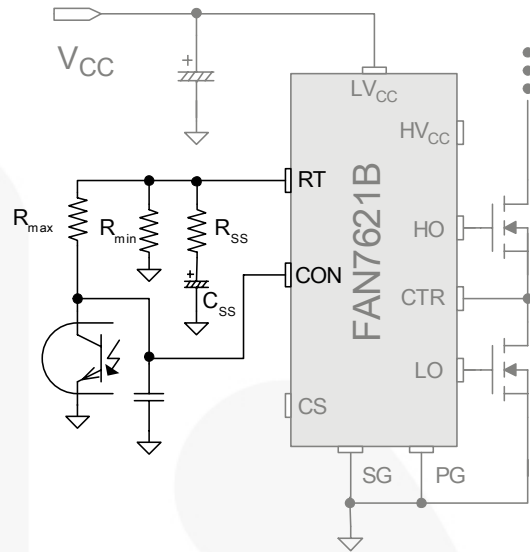

**Figure 21. Internal Block of Control Pin**
**4. Control Pin:** The FAN7621B has a control pin for protection, cycle skipping, and remote on/off. Figure 21 shows the internal block diagram for control pin.